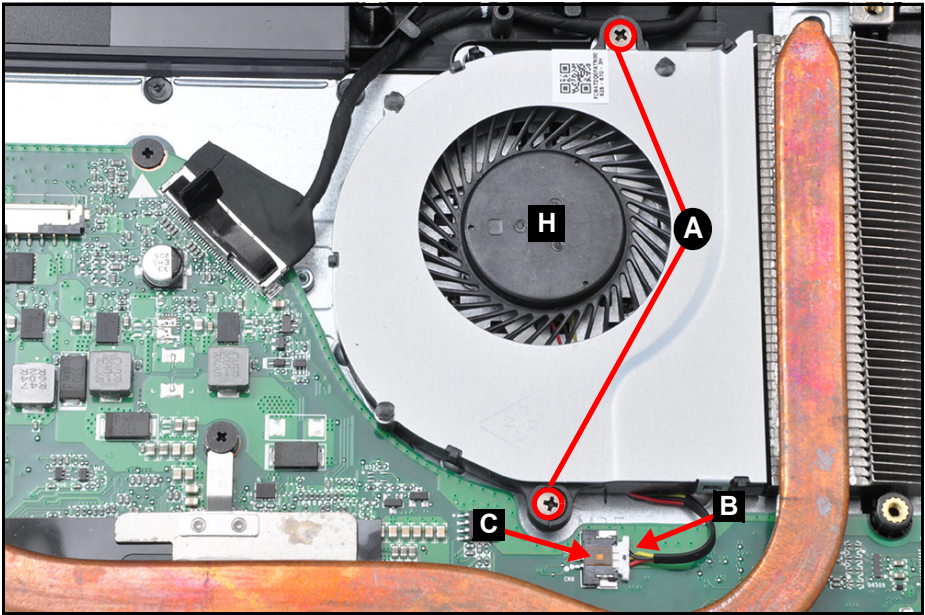

Figure 3-99. Replacing the Fan
- 1. Place the fan (H) next to the heatsink on the top assembly (Figure 3-99).
- 2. Install and secure two (2) screws (A) to the fan (Figure 3-99).
- 3. Connect the fan cable (B) to the mainboard connector (C) (Figure 3-99).